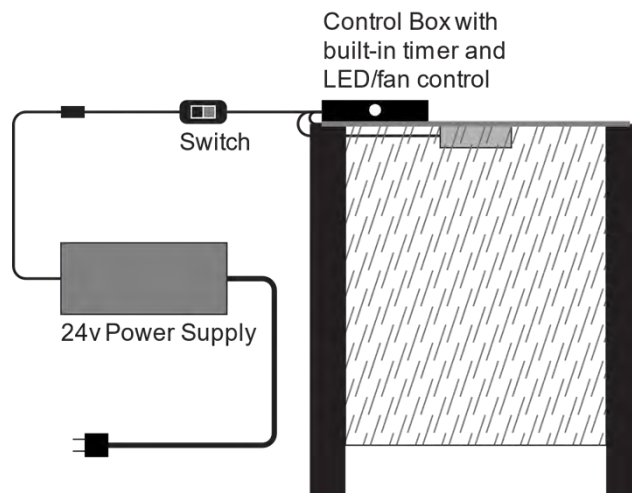

Figure 1. New (2021-2022) Growing Beyond Earth® kit with Control Box
- The kit includes a 24-volt power supply, a switch, and a Control Box that is attached to the LED panel atop the growth chamber (Figure 1).